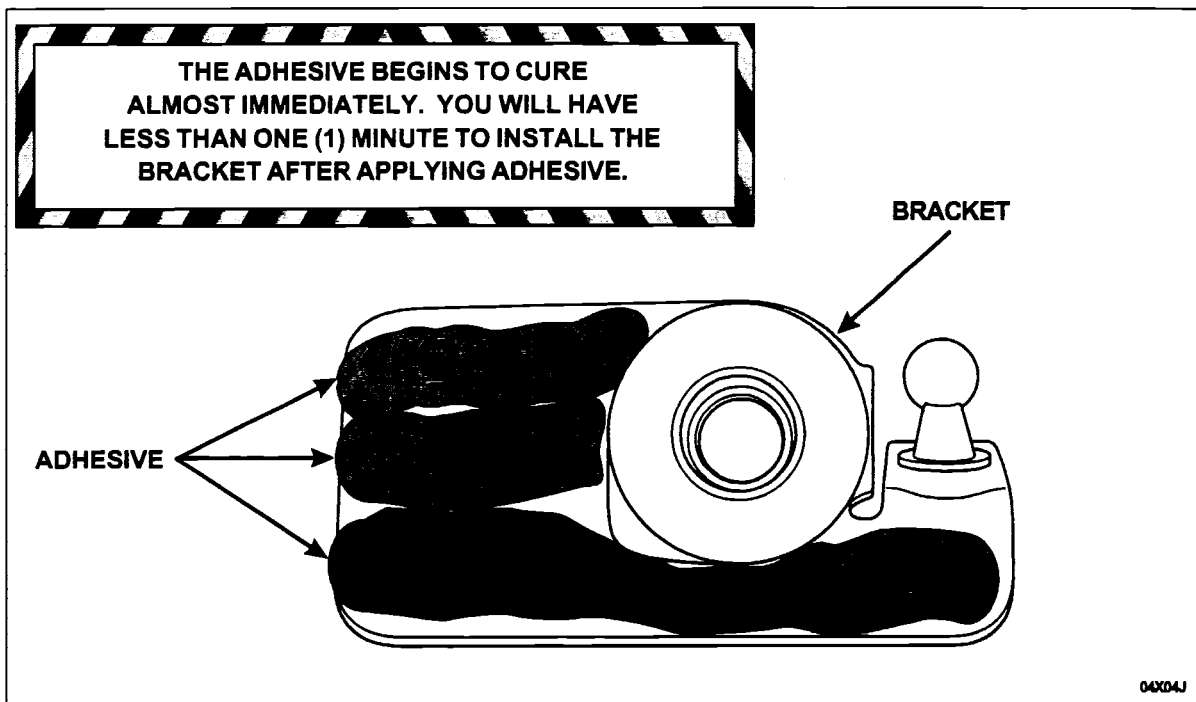

FIGURE 10
After the primer has dried for fifteen (15) minutes, apply three (3) **large** beads (9-10 mm in diameter) of adhesive to the backside of the *new* left-side bracket. See Figure 10.
14. Apply three (3) **large** beads (9-10 mm in diameter) of adhesive to the backside of the *new* right-side bracket. See Figure 10.